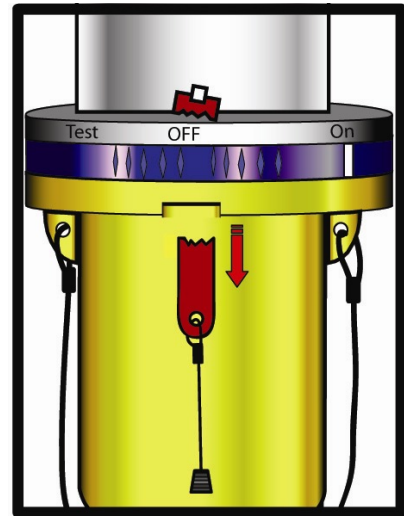

Figure 6
To activate your SART in times of emergency, turn the blue activation switch ring to the left into the test position and remove the red pull tab by sharply pulling down on the lanyard attached to the tab. Turn the blue activation switch ring to the right and into the ON position. (See figure 6 on page 8)
- f. Mount SART on the bracket (see figure 6).
3. Remove the red Pull Tab by pulling it down and completely out of the SART. (See figure 6)